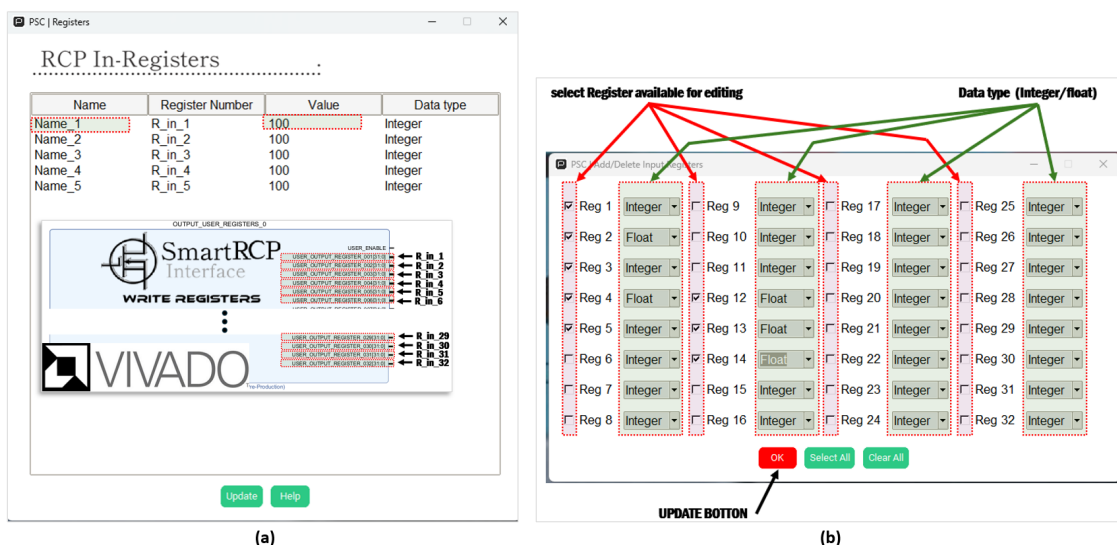

Figure 15: (a) Input-Register Configuration Window and detail capture of this registers on Vivado (b) Register data-format config.
2. Then, a different pop-up window will be showed (Fig. 15.b). In this window, the user can select which registers will be available for modification and its data format (float or integer).